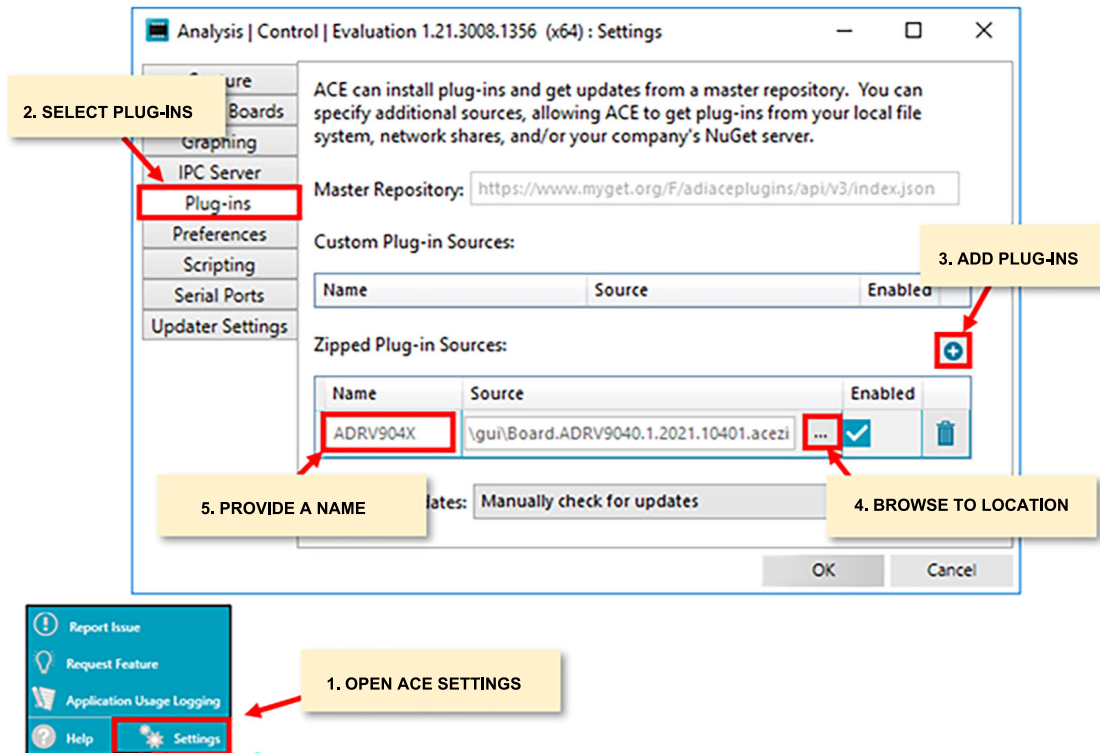

Figure 121. Adding ADRV904x Plugin as a Zipped Source in ACE Settings, Once Added, Run ACE Plugin Manager to Install the Plugin
The user can install the ADRV904x plugin by providing the plugin .acezip file path to ACE under **Settings** as shown in Figure 121. The steps are as follows:
2. Add a new plugin by clicking on the + button under **Zipped Plugin Sources** as shown in Figure 121.